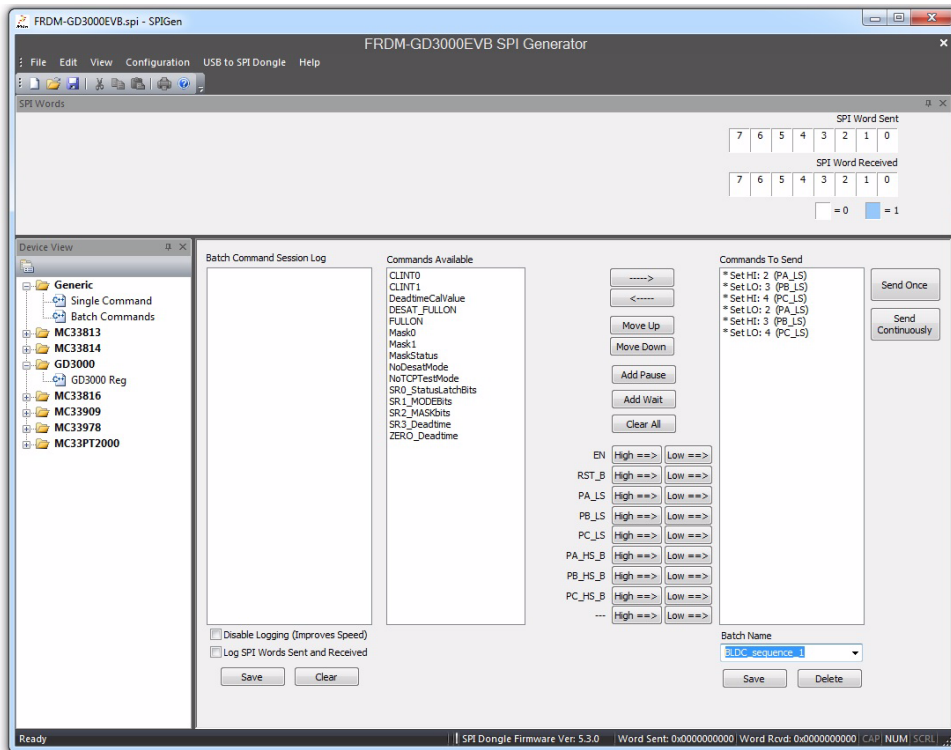

Figure 19. SPIGen select batch command
- To run a batch command, select the appropriate batch command, as shown in Figure 19.